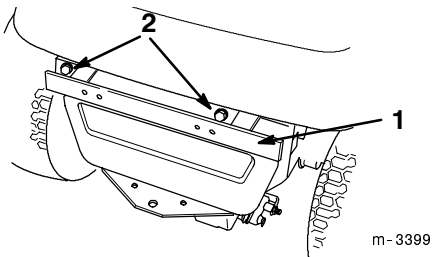

Figure 1
1. Install the upper mounting bracket to the rear of the tractor using two 5/16 x 1" bolts and 5/16" locknuts (Fig. 1)